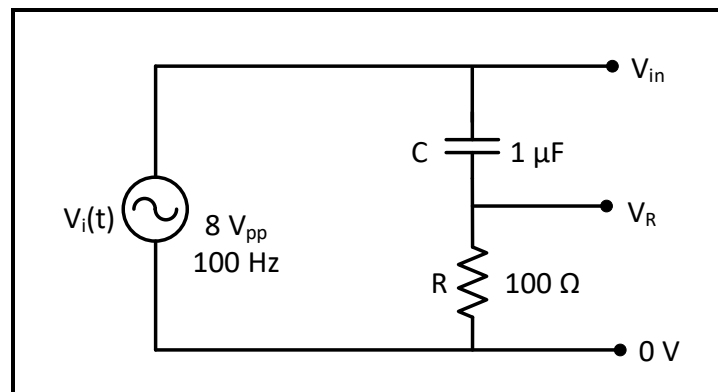

Figure 9.11
1. For the circuit shown in Figure 9.11:
1. Connect the circuit in Figure 9.11, set V_{in} to sinusoidal voltage at $8 V_{PP}$ and $f = 50$ Hz.